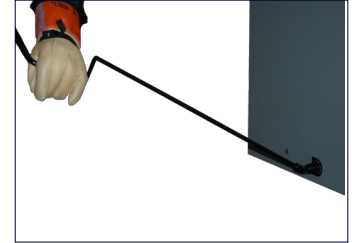

Figure 38: Racking of circuit breaker with door closed
1. Insert the racking crank on the racking screw on the front of the circuit breaker cell, and push in (refer to "Racking crank engagement procedure"). This action operates the racking interlock latch. Figure 38: Racking of a circuit breaker with door closed shows racking of a circuit breaker.